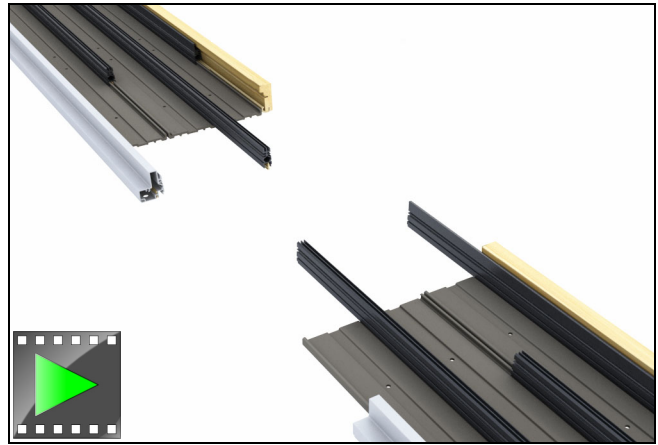

Figure 19
1. Lay out the head jamb sections top side down on a clean flat surface in the correct configuration. See figure 19.